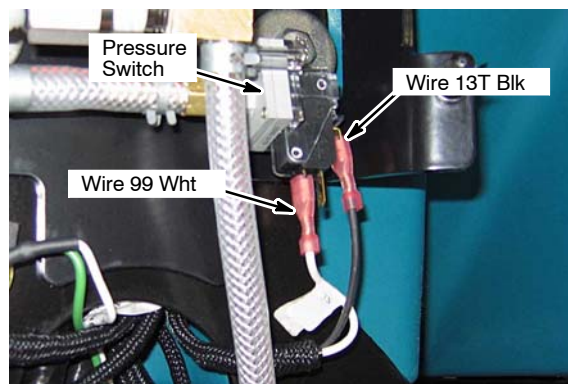

Fig. 44
13. Connect wires 13T BLK/99 WHT from the routed *ec-H2O* wire harness to the pressure switch as shown (Figure 44).